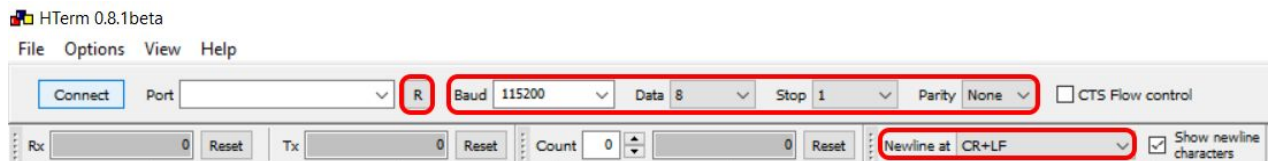

Figure 12. Connecting the USB Port
Connect the TeraRanger Multiflex to your computer and select the corresponding USB port (click “R” button to refresh the port list). Select values for the following fields: (1) Baudrate, (2) Data Bits, (3) Parity, (4) Stop Bits. For easier readings, select the “CR+LF” option for “Newline at” tab. See Figure 12 for visual instructions.